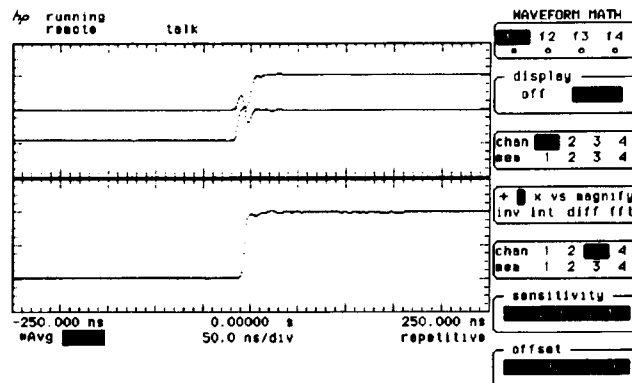

Figure 9-6. Channel 1 Minus Channel 2 (or 3)
- Press **TIME BASE** and set the horizontal display to 50.0 ns/div (see Figure 9-6) . This display is best viewed when the oscilloscope is in **repetitive acquisition mode**.